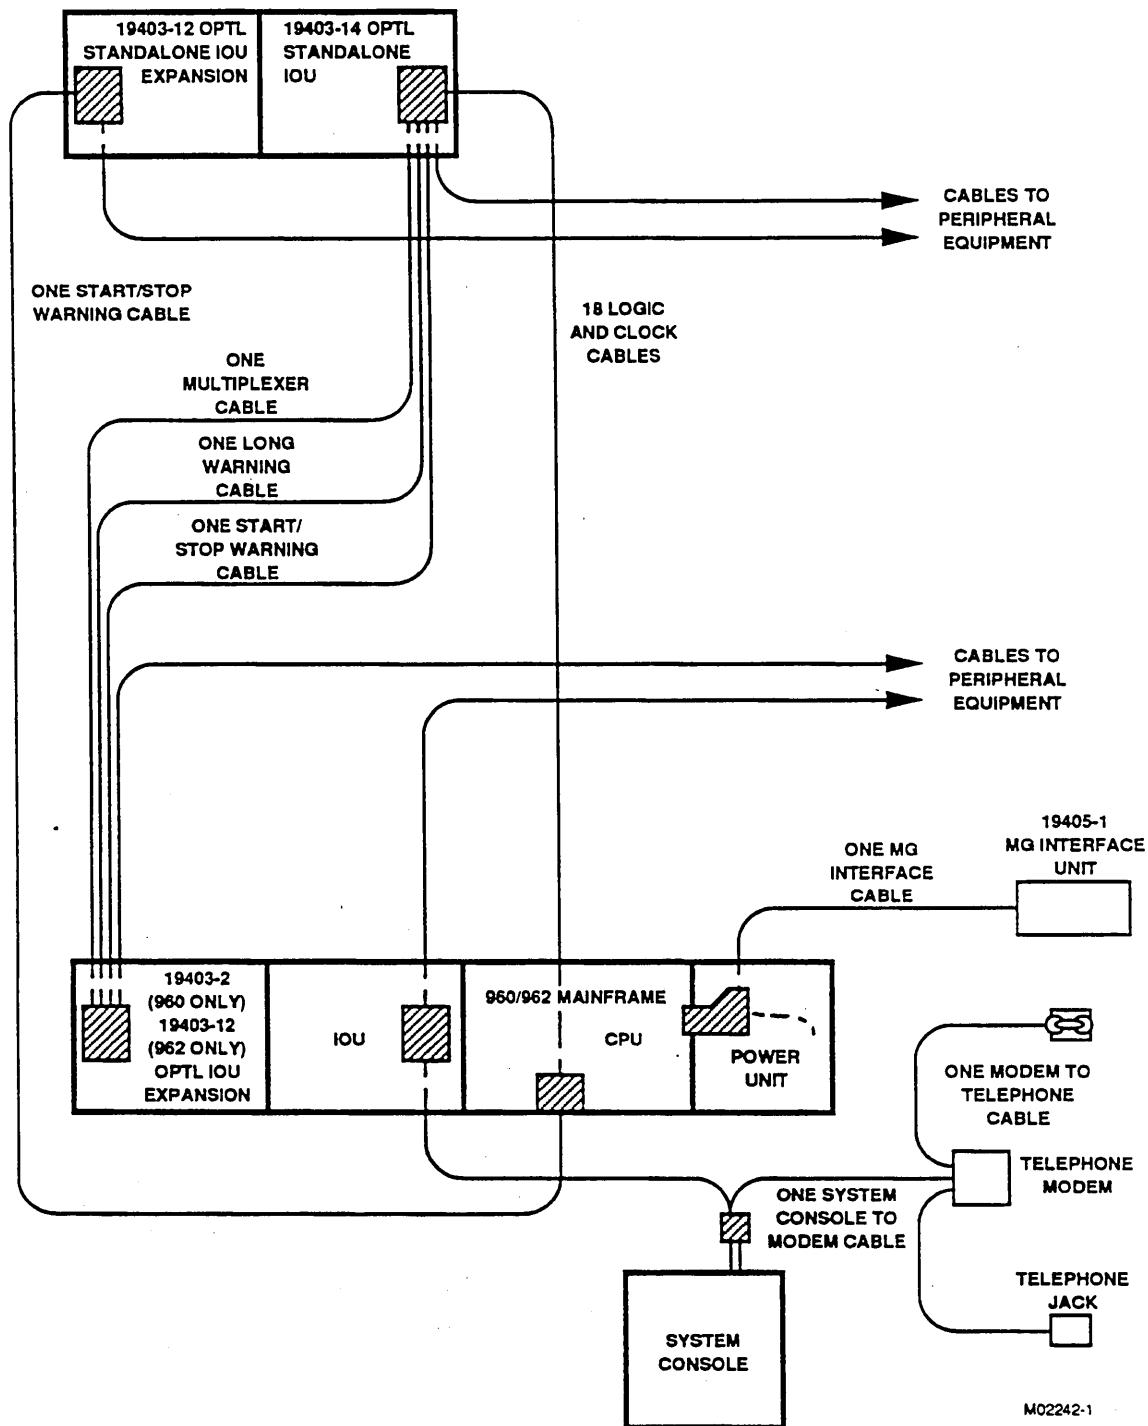

Figure 2-15. Equipment Placement Based on Cabling
Cable lengths (L) restrict the placements of the equipment listed in table 2-6 and shown in figure 2-15.